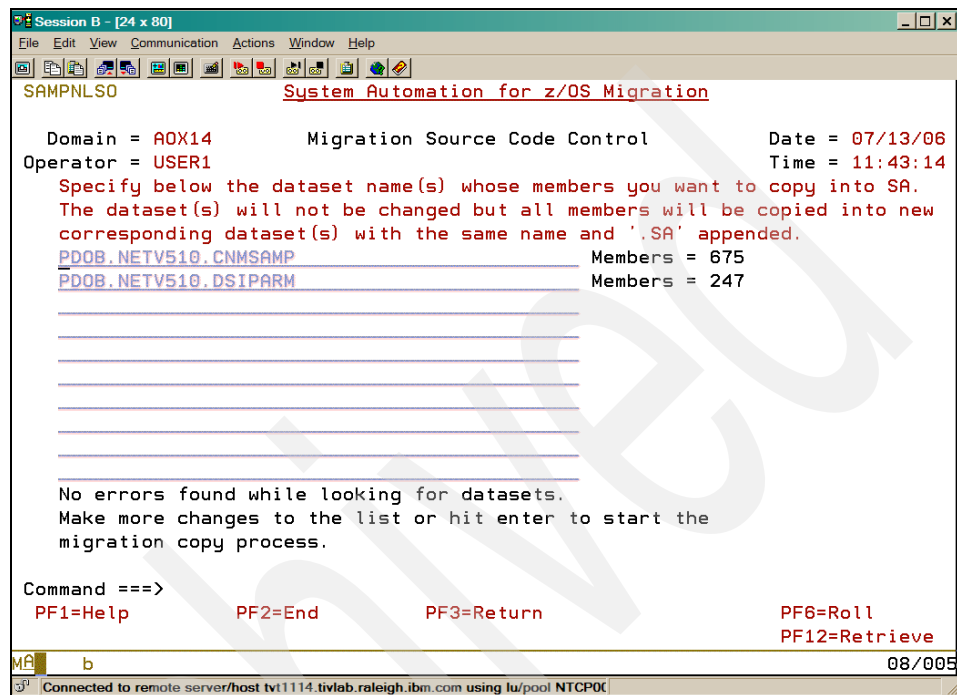

Figure 6-8 Migration Source Code Control - verified old dataset screen
7. Once you have keyed in your old dataset names and had the tool validate them, you will then see a screen similar to Figure 6-8 (the dataset names are just examples).
8. In Figure 6-8, it shows the total number of members found in each dataset. Now you can press Enter one final time to start the actual copy process. During this process, the first line of the MIGREYEC member that you validated earlier will be placed at the top of each source member. Depending on the number of datasets and the total number of members, this process may take a few minutes. A progress count is provided as the copy is taking place so you can see that everything is working successfully.